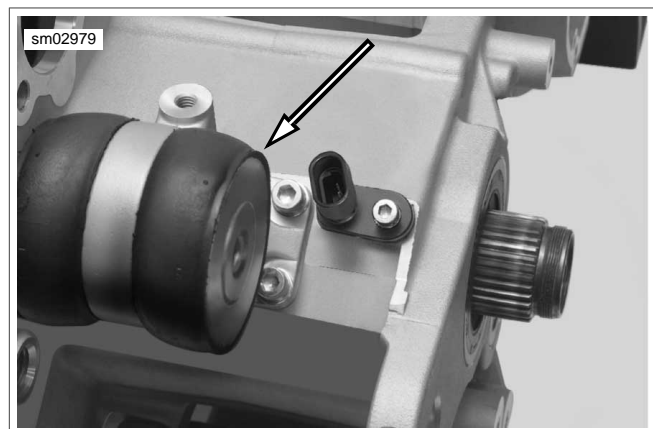

Figure 3-21. Rear Isolator Assembly
41. See Figure 3-21. If the crankcases are being separated it will be necessary to remove rear isolator assembly by removing the forward two fasteners first and then the two rear fasteners (re-install with **new** fasteners).